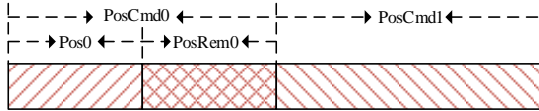

Fig. 12.13 Schematic diagram of the operation of the incremental position command
① The reference point of the incremental position is the target value of the current position command. As shown in Figure 12.13, the first segment position command is set to PosCmd0, and after running the pulses of Pos0, the operation ends, and the remaining pulses of PosRem0 are not completed. If the second segment incremental position command PosCmd1 is inserted at this point, the total number of pulses run by the second segment position command, is PosCmd1+ PosRem0, and the final operation position value is PosCmd0+ PosCmd1.